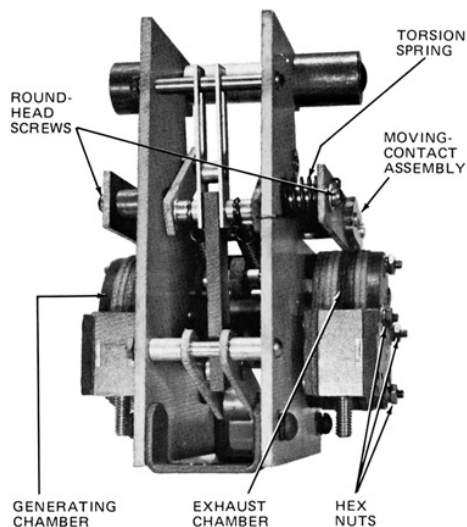

Figure 8. Type 6H contact-box assembly
1. Connect a low-voltage variable-current source across one set of recloser terminals as shown in Figure 8.